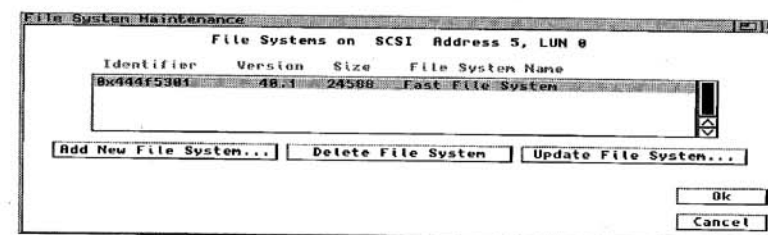

Figure 9. File System Maintenance Window
4. Click on the Add/Update... gadget to view the File System Maintenance window, illustrated in Figure 9.